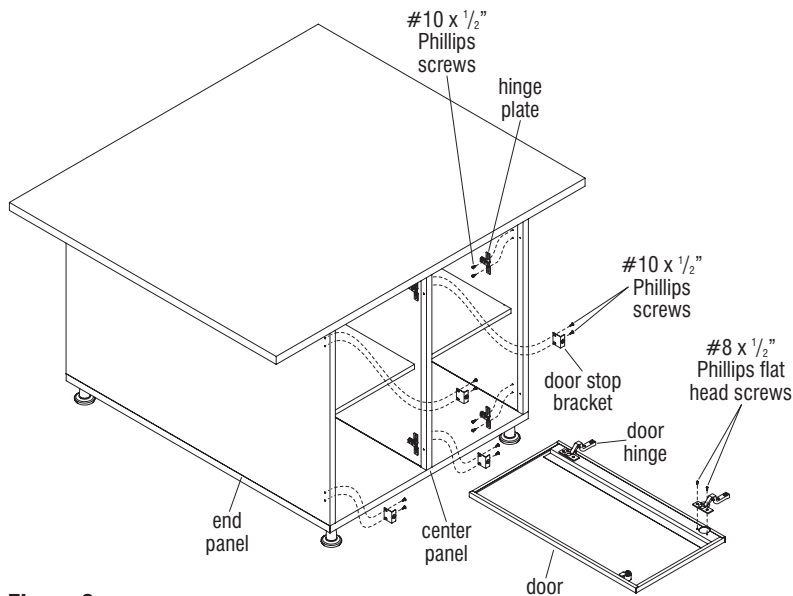

Figure 9
Note: Worktable doors may be ordered with right- or left-hand hinges. The instructions below and Figures 9 & 10 outline installation of right-hand hinged doors (left not shown).
12. Determine whether the doors to be installed are right- or left hand hinged, and follow the instructions below accordingly. At the door opening side opposite to where door hinges will install, orient two door stop brackets over the pre-drilled holes in the inside of the cabinet. Secure brackets to the cabinet using two #10 x 1/2" Phillips screws per bracket as illustrated (Figure 9).
14. One at a time, lay each door down on a soft, protective surface adjacent to where it will install. Position the door such that the door lock will install up. Locate door hinges from hardware pack, orient in position as illustrated over door hinge mounting locations, and secure each hinge to door using two #8 x 1/2" Phillips flat-head screws (Figure 9).